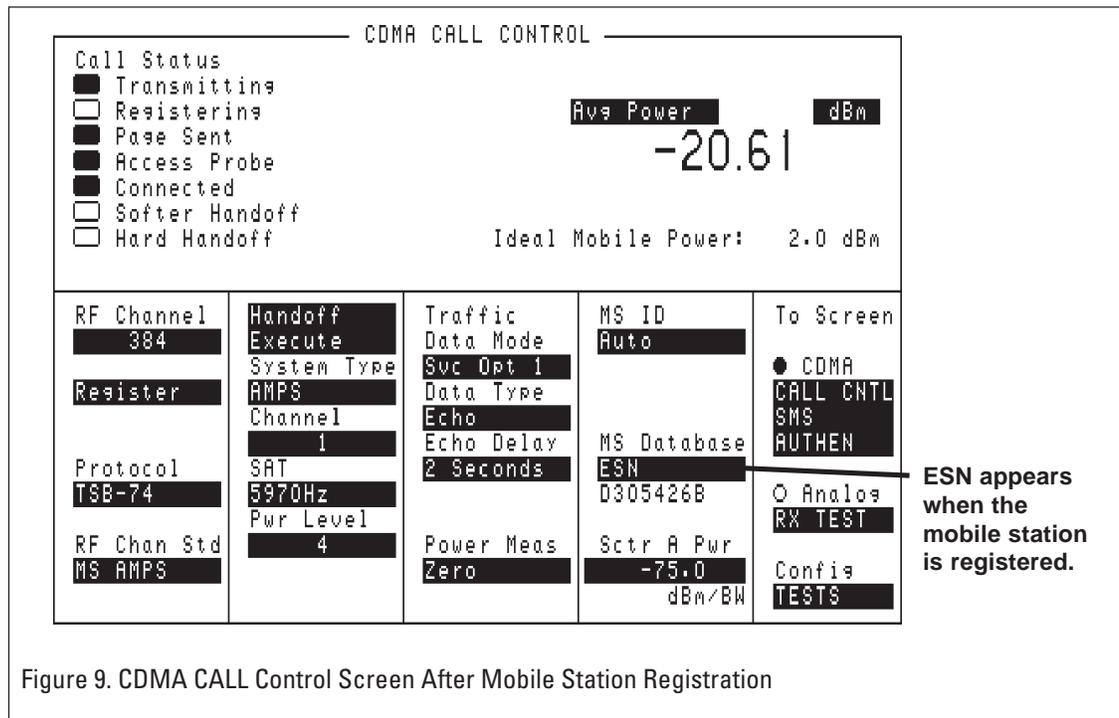

Figure 9. CDMA CALL Control Screen After Mobile Station Registration
Turn on power to the mobile station and wait for power-up registration on Test Set 1; see Figure 9. The mobile station will perform power-up registration on Test Set 1 after it has found digital service (this should take no longer than 30 seconds).
- d. The phone will perform power-up registration on Test Set 2 after it has found digital service (this should take no longer than 30 seconds); see Figure 9.